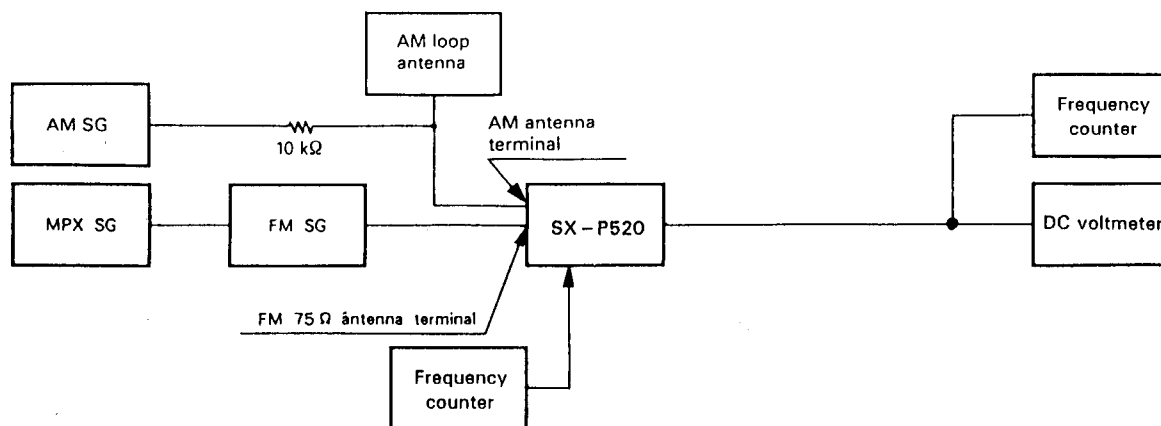

Fig. 6-1 FM and AM adjustment wiring diagram
- As to connections and points to be adjusted, refer to Fig. 6-1.